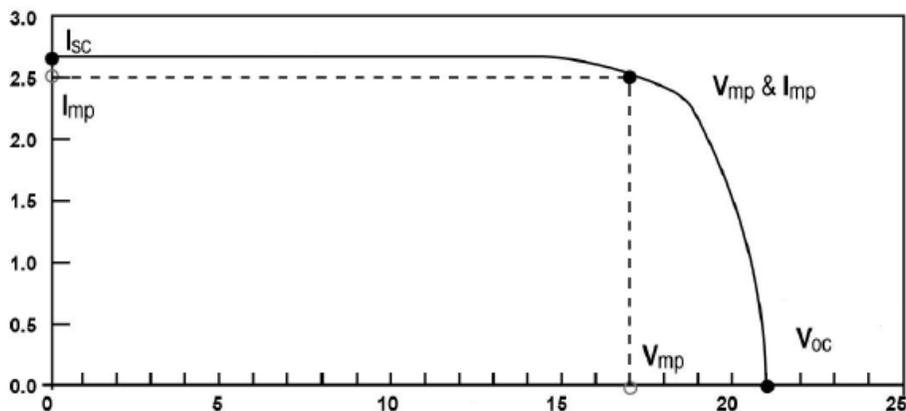

Figure 3.6: Module I-V curve (12VDC nominal)
Figure 3.6 shows a typical I-V curve. Voltage (V) is plotted along the horizontal axis. Current (I) is plotted along the vertical axis. Most I-V curves are given for the standard test conditions (STC) of 1000 watts per square meter sunlight (often referred to as one peak sun) and 25 degrees C (77 degrees F) cell temperature.
This point, labelled V_{mp} and I_{mp} , is the operating point at which the maximum output will be produced by the module at operating conditions indicated for that curve. The voltage at the maximum power point can be determined by extending a vertical line from the curve downward to read a value on the horizontal voltage scale. The example in Figure 3.6 displays a voltage of approximately 17.3 volts at the maximum power.
The current at the maximum power point can be determined by extending a horizontal line from the curve to the left to read a value on the vertical current scale. The example in Figure 3.6 displays a current of approximately 2.5 amps at the maximum power point.
This point, labelled V_{oc} , is the maximum voltage achieved when no current is being drawn from the module. Since no current is flowing, the module experiences maximum electrical potential. The example in Figure 3.6 displays an open circuit voltage of approximately 21.4 volts. The power output at V_{oc} is zero watts since there is no current.
The example in Figure 3.6 displays a current of approximately 2.65 amps. The power output at I_{sc} is zero watts since the voltage is zero.